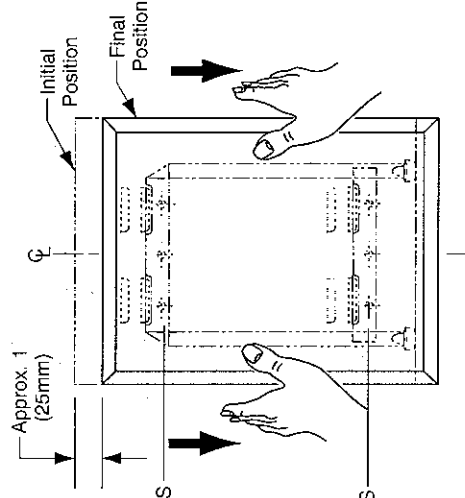

Figure 3
**Snap Locking Design** — Locking devices automatically secure mirror to concealed wall hanger when it is lowered into final position. Locking devices may be unlocked by inserting two flat blade screwdrivers behind each side of mirror near the bottom or under the bottom of the mirror and pulling mirror bottom forward and then up (see figure 3).